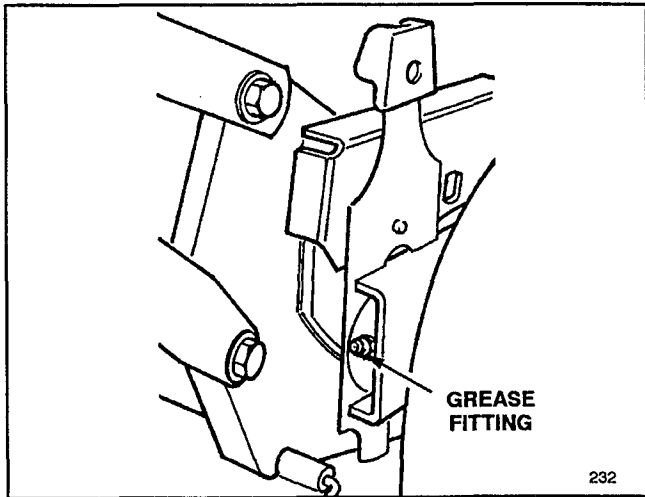

Figure 28
1. Move rear wheel height-of-cut levers to center setting. Wipe grease fittings with clean rag (Fig. 28). Install grease gun onto fitting and gently apply 2 or 3 pumps of #2 Multi-Purpose Lithium Base Grease. Excessive pressure may damage seals.